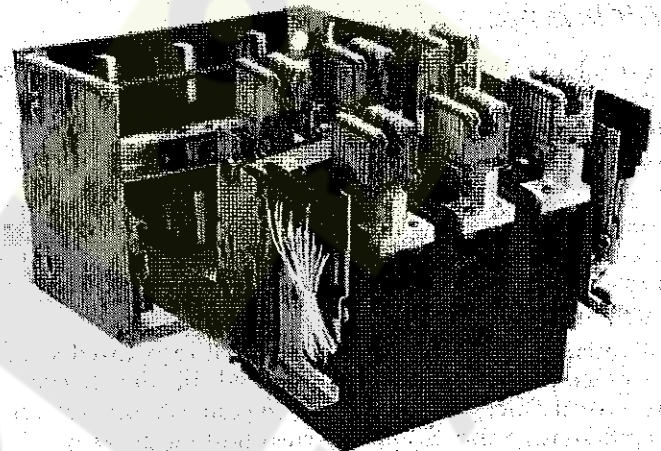

Figure 10. Rotating the device forward for inspection.
4. The device can now be rotated about the front roller by pulling forward, as illustrated in Figure 10, for inspection of the rear of the device, or it can be completely removed after attaching the Lifting Bar, as illustrated in Figures 4 and 5.